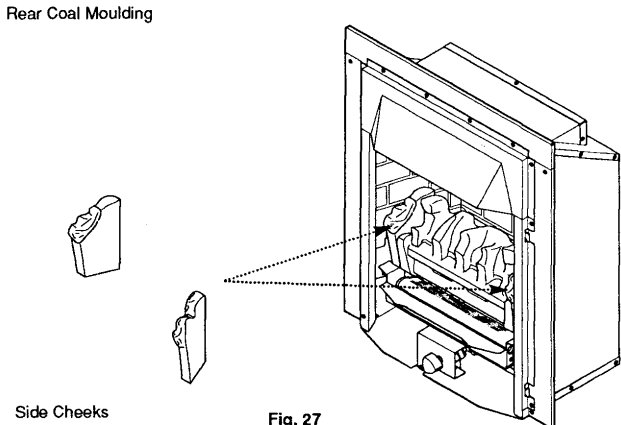

Fig. 27
2. Identify the left and right pieces marked L and R. Position the side cheeks either side of the rear coal moulding with the coal shaped moulding towards the front. The rear face of the cheeks should rest on the rear coal support with the bottom face resting on the pertruding tabs of the rear coal support and the fixing brackets used to hold the burner tray to the sides of the combustion box (Fig. 27).